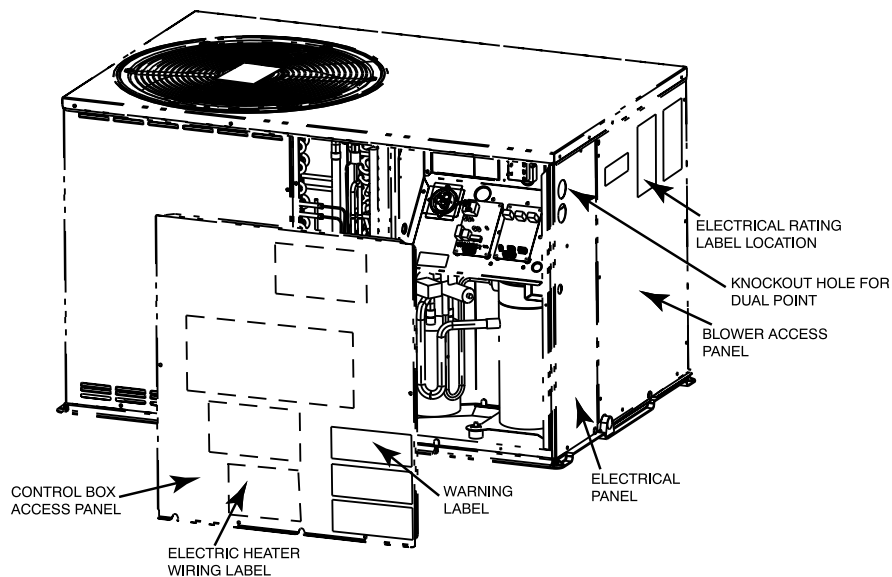
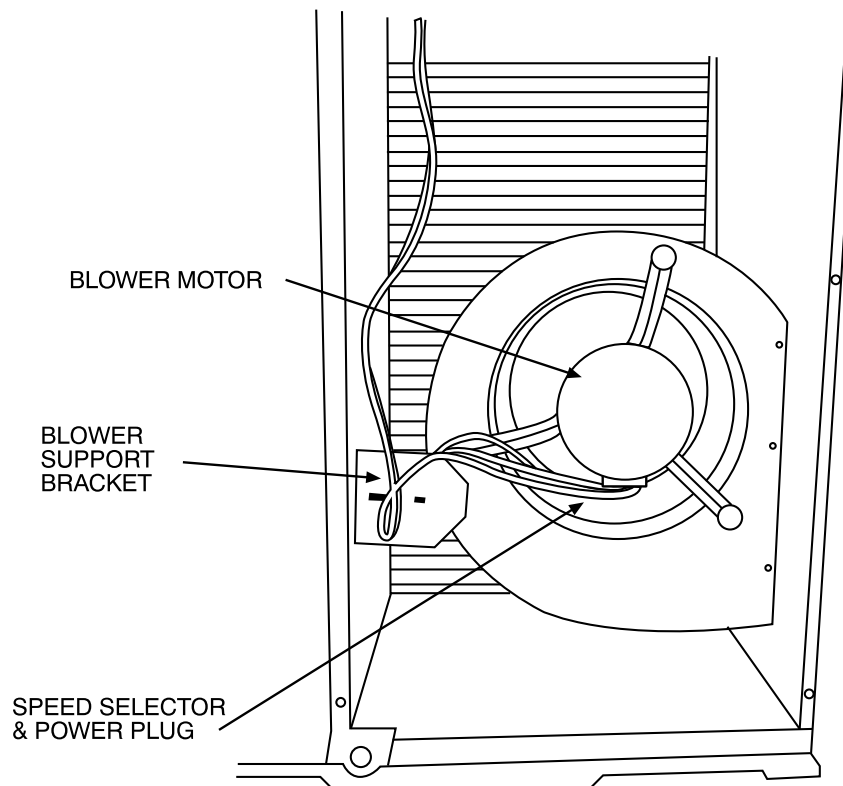

Fig. 1 – Access Panel and Label Location
Fig. 2 – Indoor Blower Compartment
3. Remove unit side panel to access blower compartment (See Fig. 1 and Fig. 2).
4. Disconnect wiring to motor by removing speed selection and power plugs from bottom of motor (See Fig. 2).
5. Remove rear blower support bracket. Remove shipping block and label under blower if unit has one (See Fig. 2).
16. Attach the adhesive backed wiring label provided with the heater to the back of the access panel near the unit wiring label (See Fig. 1).
2. Remove Control Box Access Panel (see Fig. 1), check for clearance on the inside of control box, and remove a 7/8-in knockout hole on the Electrical Panel for second power line.
3. Attach warning and rating labels in the selected location (see Fig. 1).